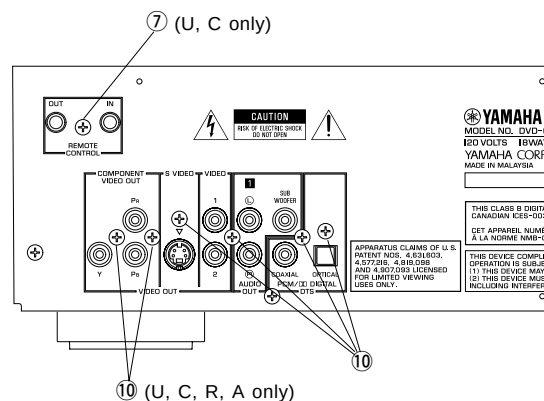

Fig. 5
- Remove screw (⑦) and then remove the Main (6) P.C.B. in Fig. 5.
6. Removal of Main (1) P.C.B.
- Remove 6 screws (⑩) in Fig. 5.